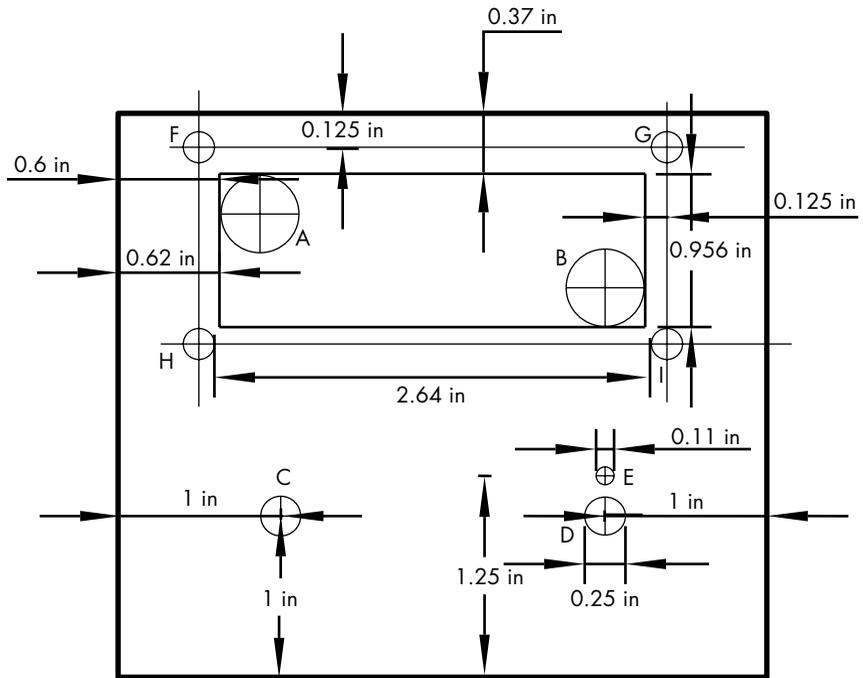

Figure 3-10: Sloping face of the Regulated Power Supply enclosure
The templates for this project are shown in Figures 3-10 and 3-11, and they can be downloaded from <https://www.nostarch.com/arduinoplayground/>.
1. Center punch and drill holes for the potentiometer, on-off switch (1/4 inches), and power indicator LED. See Figure 3-10 for the front panel dimensions.
2. Center punch and drill the hole for the power input jack in the rear of the panel (see Figure 3-10).
4. Carefully measure and mark the cutout for the LCD, as shown in Figure 3-10. Center punch and drill 1/2-inch holes in the corners of the LCD screen area to help initiate saw cutting. You can eyeball this based on the diagram in Figure 3-10 or download a PDF file of the template. Either trace the image onto your enclosure with carbon paper or simply mark the corners with a center punch and connect the punch marks.